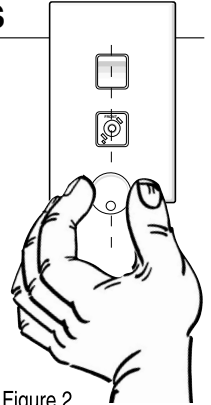

Figure 2
- 2 The dimmer knob should then be fitted, ensuring that the dimple is facing downwards and lined up with the vertical (see figure 2).